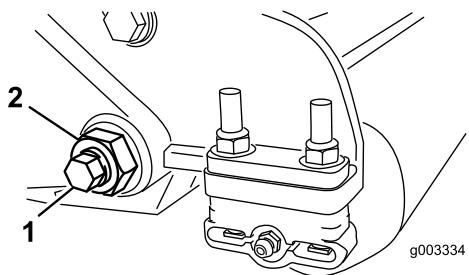
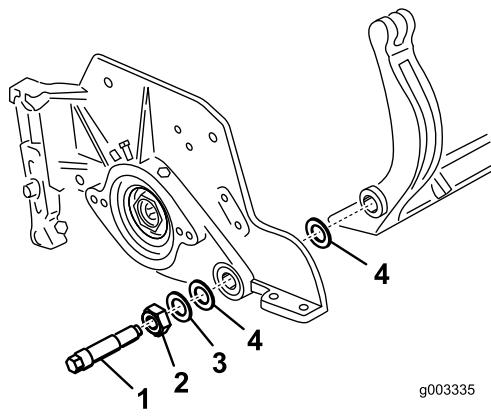
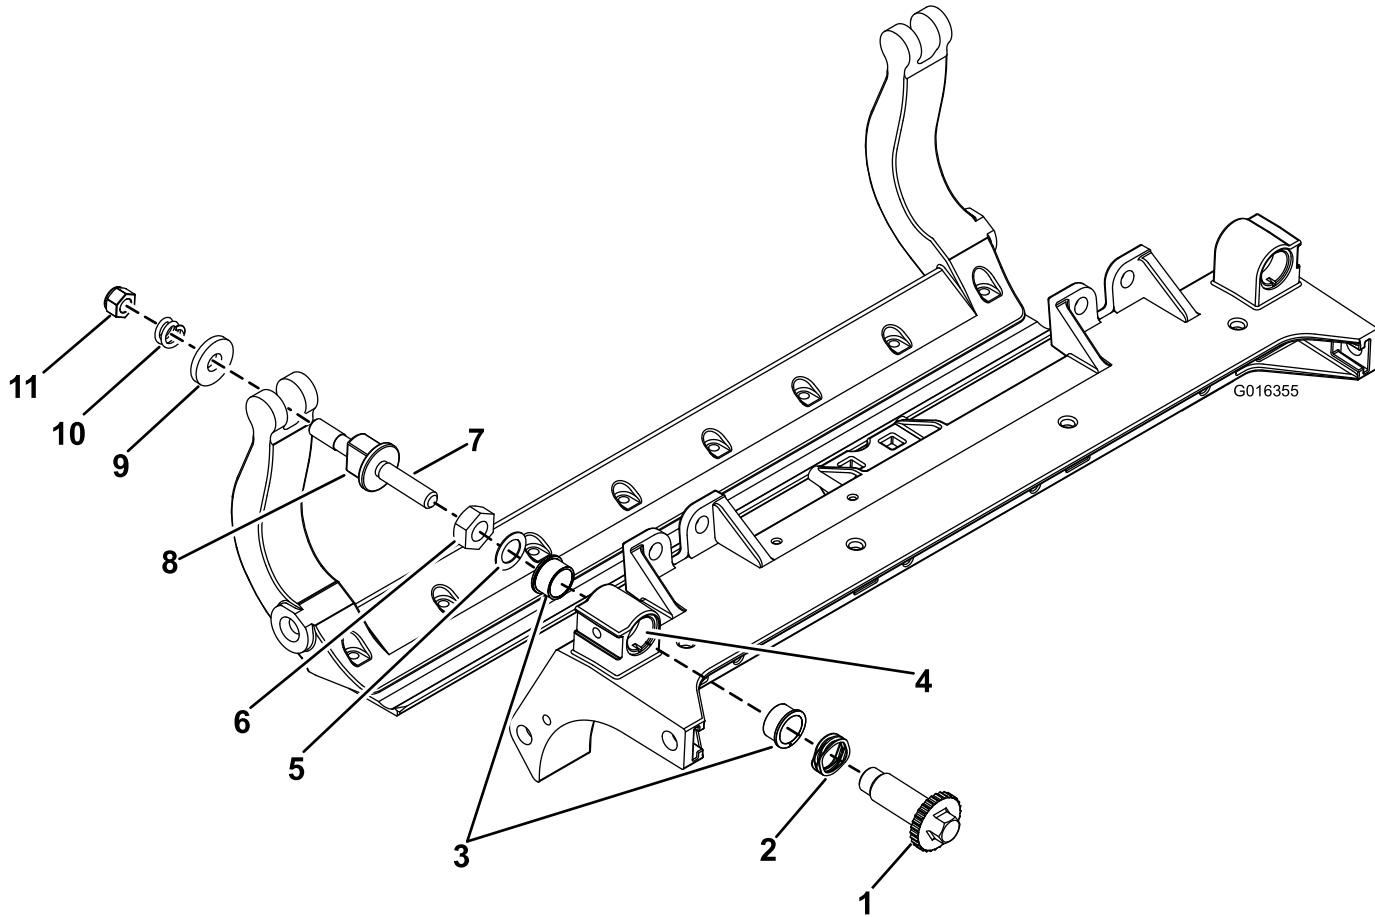

Figure 27
Figure 28
Figure 30
- On each side of the machine, loosen the locknut securing the bedbar bolt (Figure 27).
- Remove each bedbar bolt allowing bedbar to be pulled downward and removed from machine bolt (Figure 27). Account for 2 nylon and 1 stamped steel washers on each end of bedbar (Figure 28).
- Secure bedbar to each side plate with bedbar bolts (nuts on bolts) and 6 washers. A nylon washer is to be positioned on each side of side plate boss. Place a steel washer outside each of the nylon washers (Figure 28). Torque bedbar bolts to 27-33 (37-45 N-m). Tighten locknuts until the outside steel washer stops rotating and end play is removed but do not overtighten or deflect side plates. Washers on inside may have a gap.
1. Remove all parts (refer to *Installation Instructions* for HD DPA Kit Model No. 120-7230 and to Figure 30).
2. Apply Never Seize to the inside of the bushing area on cutting unit center frame (Figure 30).
3. Align the keys on flange bushings to the slots in the frame and install the bushings (Figure 30).
4. Install a wave washer onto the adjuster shaft and slide the adjuster shaft into the flange bushings in the cutting unit frame (Figure 30).
5. Secure the adjuster shaft with a flat washer and lock nut (Figure 30). Torque the lock nut to 15 to 20 ft-lb (20 to 27 N-m).
9. Secure the bedbar to each side plate with the bedbar bolts (nuts on bolts) and 6 washers. A nylon washer is to be positioned on each side of side plate boss. Place a steel washer outside each of the nylon washers (Figure 30). Torque bedbar bolts to 27-33 ft.-lb (37-45 N-m). Tighten locknuts until the outside steel washer stops rotating and end play is removed but do not overtighten or deflect side plates. Washers on inside may have a gap (Figure 28).